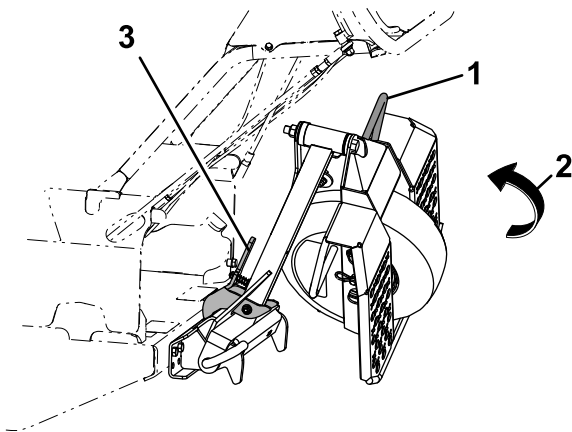

Figure 27
1. Firmly hold the platform side handle and lift slightly (reference Figure 27).